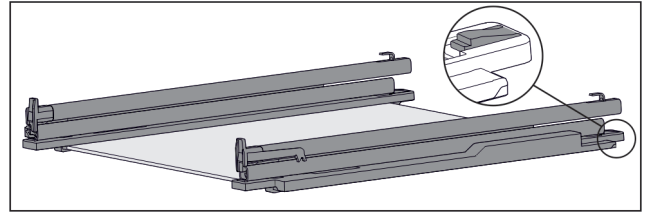

Fig. 95 Glass shelf with rails and retaining parts
- ▶ Press down retaining part at the rear (see Fig. 95) and at the same time push the rail back.